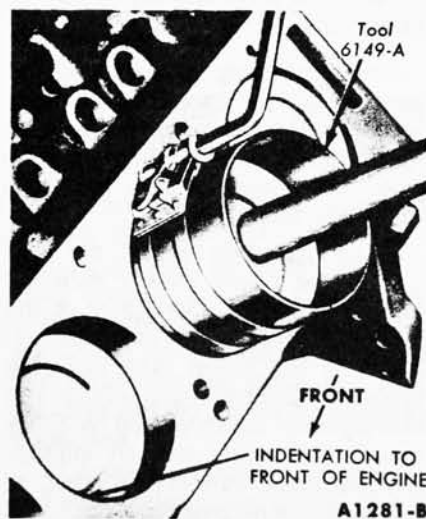

FIG. 68—Piston Installation
4. Install a piston ring compressor on the piston and push the piston in with a hammer handle until it is slightly below the top of the cylinder (Fig. 68). Be sure to guide the connecting rods to avoid damaging the crankshaft journals. **Install the piston with the indentation in the piston head toward the front of the engine.**